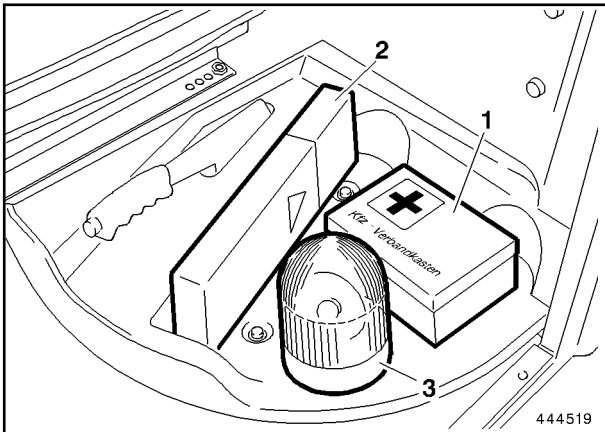

Fig. 4
- First-aid kit (1, Fig. 4) and warning triangle (2) must be stowed away on the right beside the driver's seat.